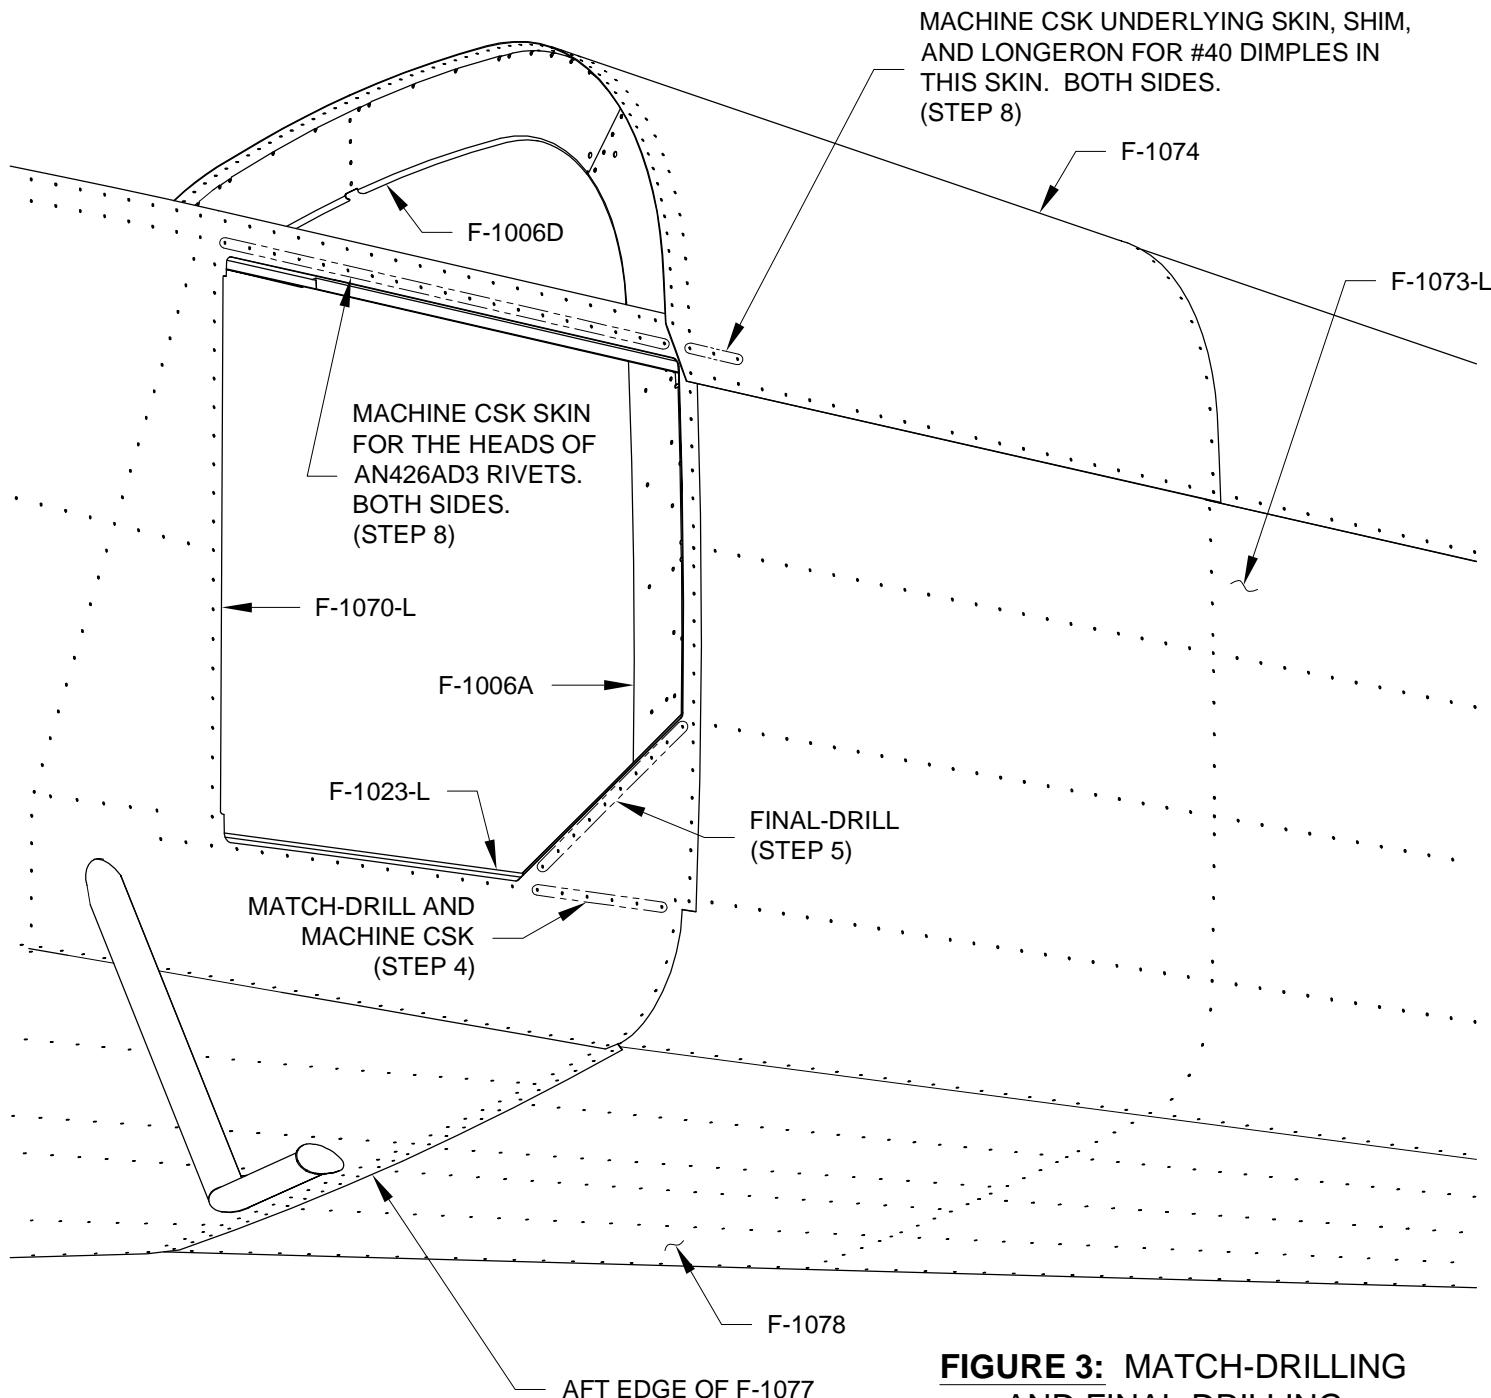

FIGURE 3: MATCH-DRILLING AND FINAL-DRILLING
Step 4: As indicated in Figure 3, match-drill #40 the six holes in the F-1070-L Mid Side Skin (aft of the bottom edge of the baggage door cut-out) into the F-1073-L Tailcone Side Skin. Be sure to drill perpendicular to the skin since these holes are common to the preexisting holes in the F-1023-L Baggage Floor Angle and the F-10100A Baggage Door Shim.
Step 5: Final-Drill #40 the holes along the angled edge of the baggage door cut-out (see Figure 3) common to the F-1070-L Mid Side Skin and F-1073-L Tailcone Side Skin.
Step 6: Final-Drill #40 the holes common to all of the skins and the F-1006A, B, C, and D Bulkheads (the F-1006B and C Bulkheads are not shown in Figure 3).
Step 8: Remove the F-1074 Tailcone Forward Top Skin. Machine countersink the holes in the F-1070-L and -R Mid Side Skins and the F-1046-L and -R Mid Fuse Longerons as instructed in Figure 3.
Step 6: Dimple the three holes in both sides of the F-1074 Tailcone Forward Top Skin (see Page 33-4, Figure 3) which are common to the F-1046 Mid Fuse Longerons.